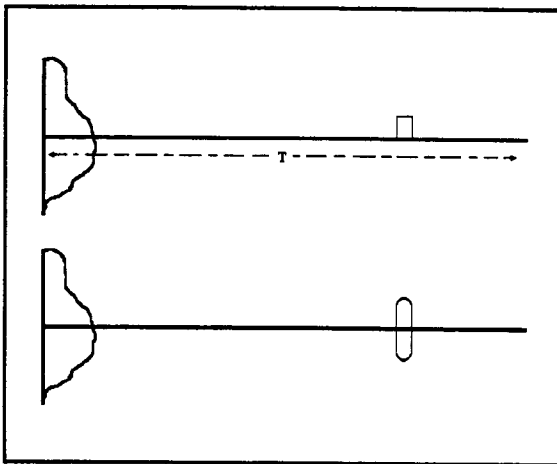

Figure 2-3. Example of a Detect Pulse.
7. Attach the Channel two probe to TP10 (qualify comparator output). You should see a detect pulse as shown in Figure 2-3. If you have a pulse at TP4 and TP6, but not at TP10, you may have a bad U7.